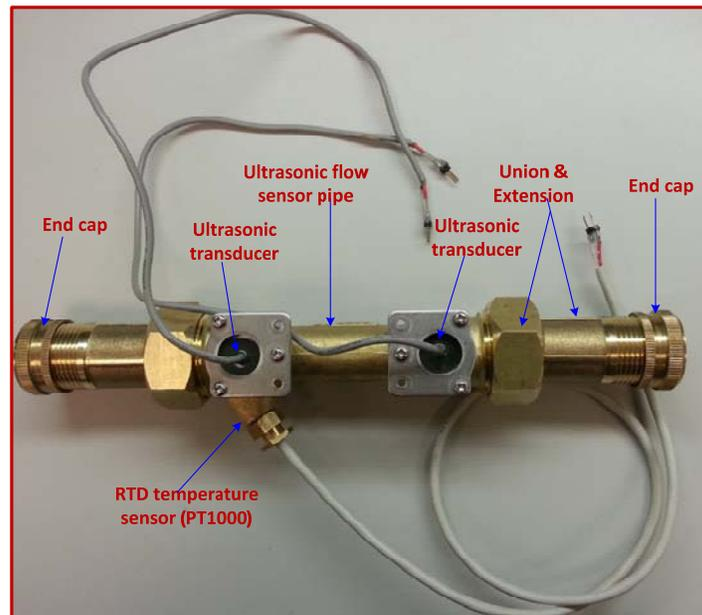

Figure 5. ultrasonic flow-meter sensor pipe
2. Obtain the ultrasonic water flow sensor shown in Figure 5 from the source in the reference section of this document. The union and the pipe extension are not necessary for zero flow test but you would need the end caps to confine water in the pipe for the test. The RTD temperature sensor is not include in the sensor and can be obtained from a different manufacturer. The RTD used in this setup is a JUMO PT1000. If you need to use a PT500 temperature sensor, you would need to change the temp sensor reference resistor ( $R_{REF}$ ) on the TDC1000-TDC7200EVM to 500  $\Omega$  (the EVM board comes with a 1000  $\Omega$  resistor reference resistor).